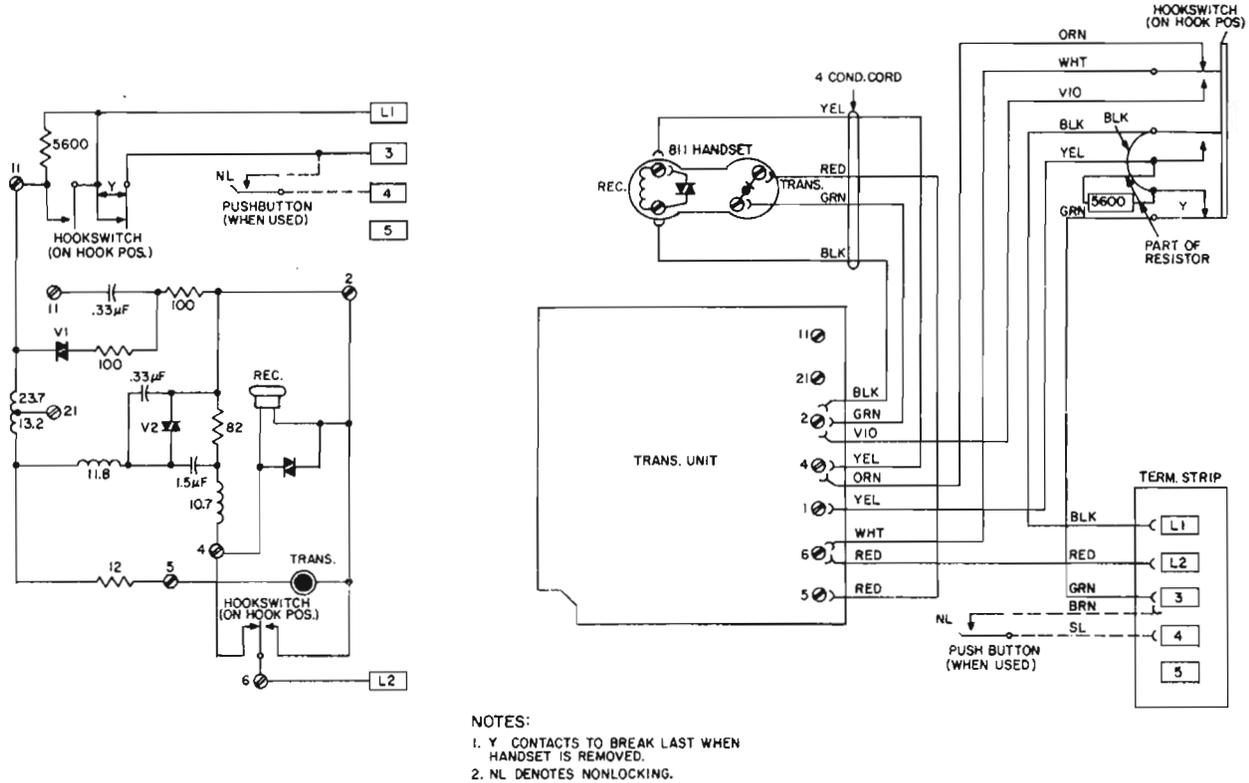

Figure 11. Schematic and Wiring Diagram of Type 811 Handset, Four-Conductor Cord.
5.04 The handset assembly used in the emergency telephone is a Type 81 handset (part No. L-9024-DO). (The Type 81 handset has been replaced by the Type 811 handset (part No. L-9053-DA) with a four-conductor cord (Figure 11.)
5.07 For the Type 811 handset, four-conductor cord emergency telephone, make the following electrical conversions (Figure 11):